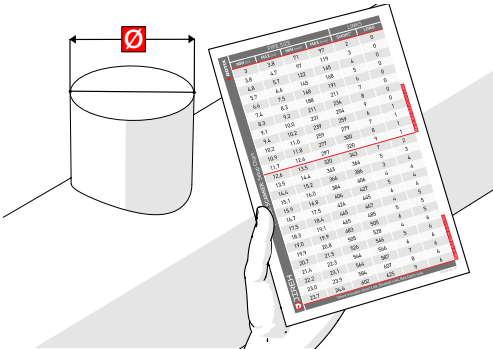

Fig. 94 - Refer to setup chart
1. Determine the diameter of the nozzle to be scanned. The **ROTIX** kit includes a setup chart indicating the number of links required based on the pipe diameter or tubing (Fig. 94).